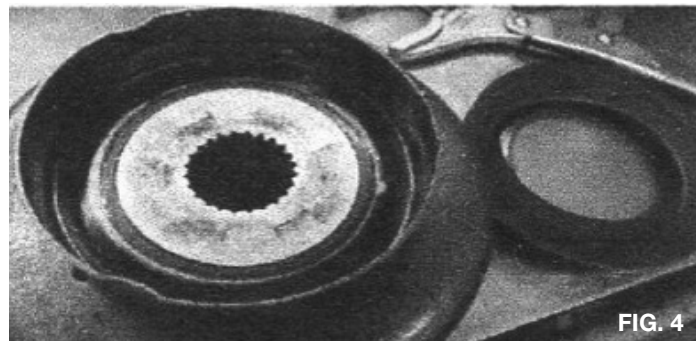

FIG. 4
8. Remove all the springs from the rotor (figure 4).